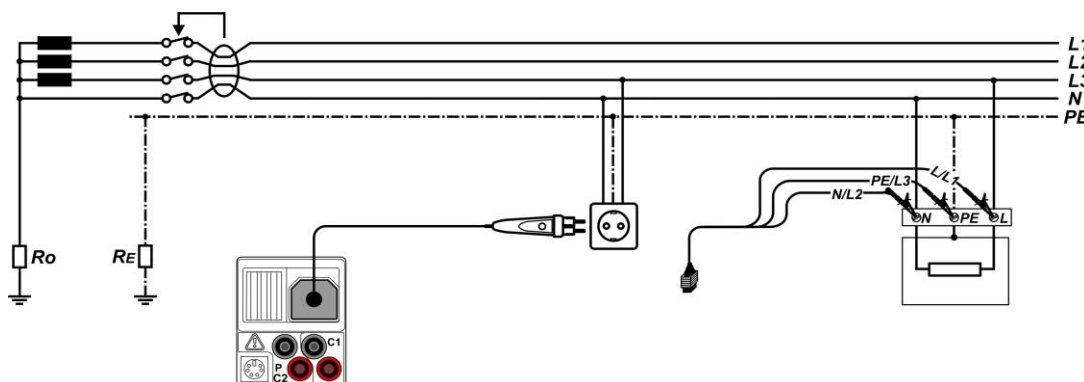

Figure 5.17: Connecting the plug commander and the 3-wire test lead
- ❑ **Connect** test leads to the item to be tested (see *figure 5.17*).
<ul style="list-style-type: none"> <li>❑ Select the RCD function using the function selector keys.</li> <li>❑ Set sub-function AUTO.</li> <li>❑ Set test parameters (if necessary).</li> <li>❑ Connect test cable to the instrument.</li> <li>❑ Connect test leads to the item to be tested (see figure 5.17).</li> <li>❑ Press the TEST key to perform the test.</li> </ul>	Start of test